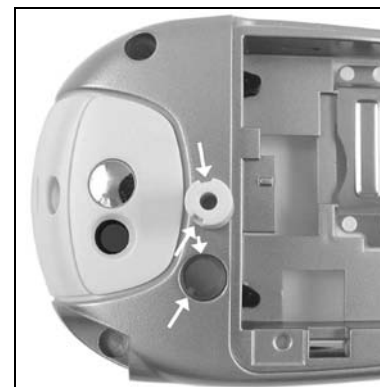

Figure 7-6.
1. Inspect rear of RF Plug to locate two alignment slots and the RF Port for alignment tabs. See Figure 7-6.